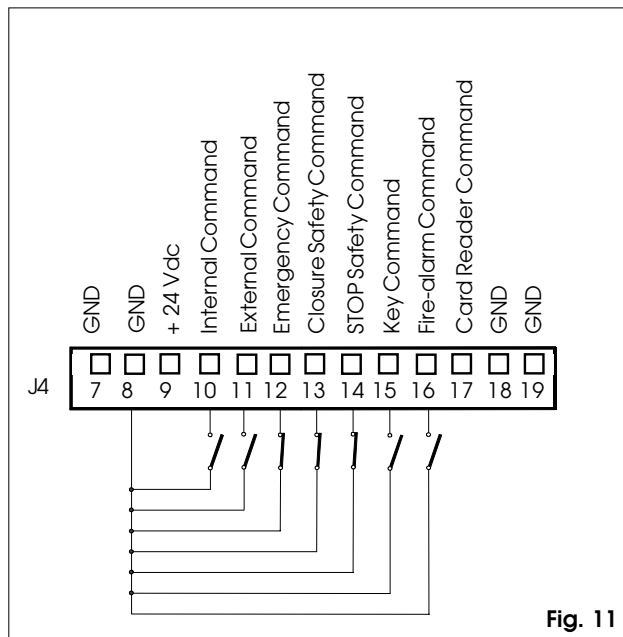

Fig. 11
⑤ J4 TERMINAL BOARD Inputs Connection (figs. 11, 12, 16)
NIGHT: The external command is inactive. The door can be opened solely by activating the Key command (fig. 11).